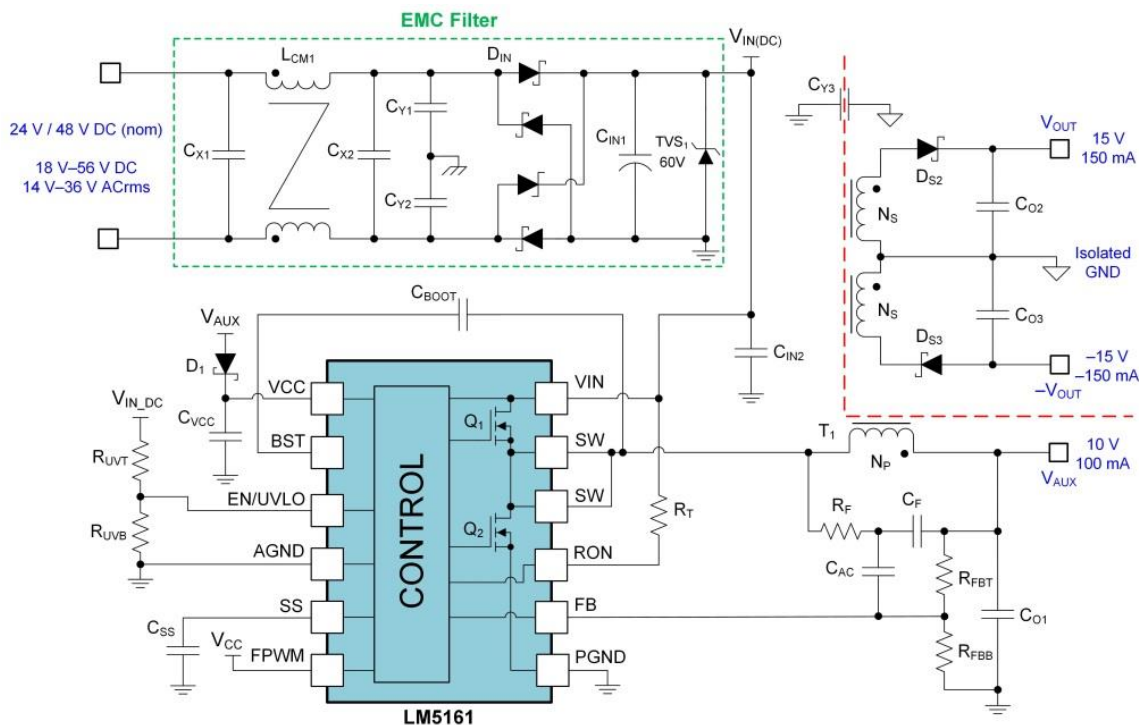

Fig. 2. An EMC-compliant, ac- or dc-powered Fly-Buck solution providing isolated  $\pm 15\text{-V}$  rails.
Fig. 2 shows a Fly-Buck power solution for industrial applications that delivers  $\pm 15\text{-V}$  isolated rails from a center-tapped secondary winding to power bipolar supplies for high-precision operational amplifiers (op amps) and data converters. A 10-V primary-side-regulated rail sends bias power to VCC to reduce quiescent power loss at high  $V_{IN}$ .
Various features have been integrated in the LM5161 to enable reduced size and enhanced reliability. These include an externally-adjustable output soft start (SS), a precision enable with customizable hysteresis for programmable line undervoltage lockout (UVLO), and an option to select CCM or diode emulation operating modes. Cycle-by-cycle peak (positive) and valley (negative) current limits, complemented by a peak current limit off-timer specific for Fly-Buck applications, provide fault protection from output overload and short circuit events. Let's examine some important elements of the Fly-Buck converter from Fig. 2.
Within the green dotted box in Fig. 2 is an EMC filter with common-mode inductor, X- and Y-capacitors, bridge rectifier and transient voltage suppression (TVS) clamp. A low-pass LC filter and TVS diode are typically used as a first line of defense to attenuate input voltage transients. X-capacitors, denoted as  $C_{X1}$  and  $C_{X2}$  in Fig. 2, provide differential-mode filtering. Meanwhile, Y-capacitors, denoted as  $C_{Y1}$  and  $C_{Y2}$ , filter common-mode currents and shunt transient energy from the input lines to the system's chassis ground.
Fig. 4. Photo of Fly-Buck converter implementation.[11] The schematic for this converter is similar to that shown in Fig. 2 but does not include the input filter.